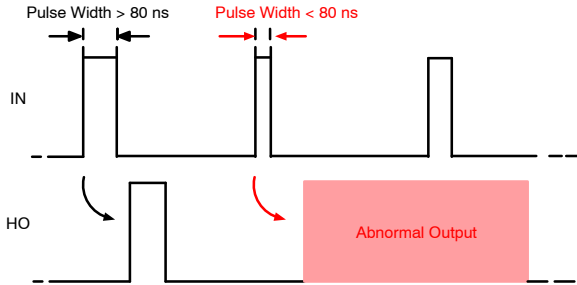

Figure 11. Output Waveform with Short Turn On Input Pulse Width
- turn on pulses, i.e. rising edge to the adjacent falling edge (see example Figure 11)